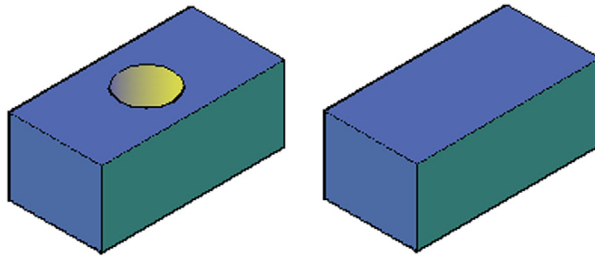

FIGURE 25.15
Delete faces is probably the easiest of the face commands to start with. It is meant to be used to delete full features, such as an extruded cylinder (hole), not surfaces. To try it out, draw a random size block with a hole in it, as seen in Figure 25.15.
Step 4. The hole is removed, as seen in Figure 25.15. Press Esc to return to the command line.